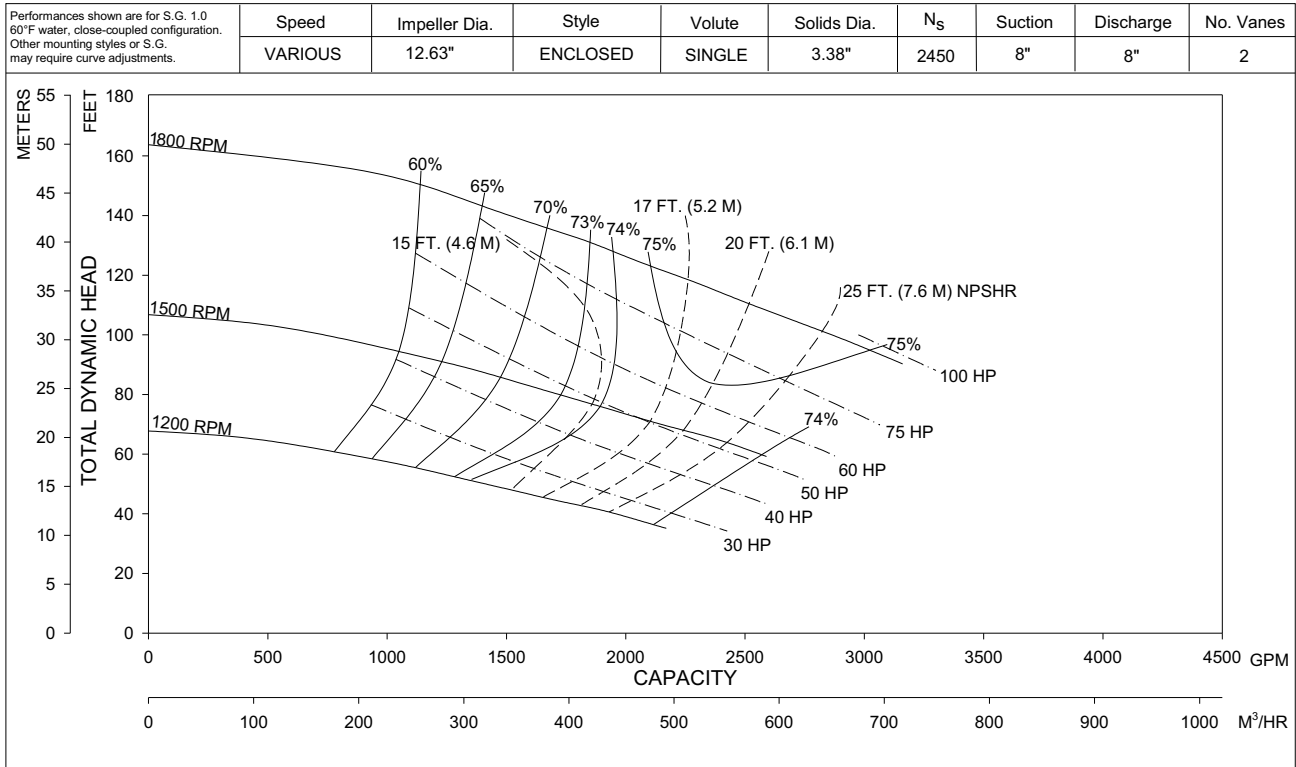

**Figure 6-1. Reading a Flow Rate Chart**
See **Figure 6-1**. Flow Capacity, located on the x-axis of the chart (A,) is the volume being discharged from the pump. Total Dynamic Head (B), is the pressure generated from water flowing in a system, and is comprised of the vertical rise and friction losses from the pipe. Pump operating speeds are listed as varying RPM's and are shown as sloping solid lines (C). Horsepower is displayed as downward sloping hashed lines (D), and is noted as a minimum requirement to operate the pump. Net Positive
As an example, in **Figure 6-1** a pump is required to have a flow capacity of 2,000 GPM with a dynamic head of 100 feet. With this information it can be determined that the pump will run most efficiently at 1600 rpm with a minimum required power input of HP and NPSHR of 8'. Under these conditions, the pump will be operating at approximately 78% efficiency.